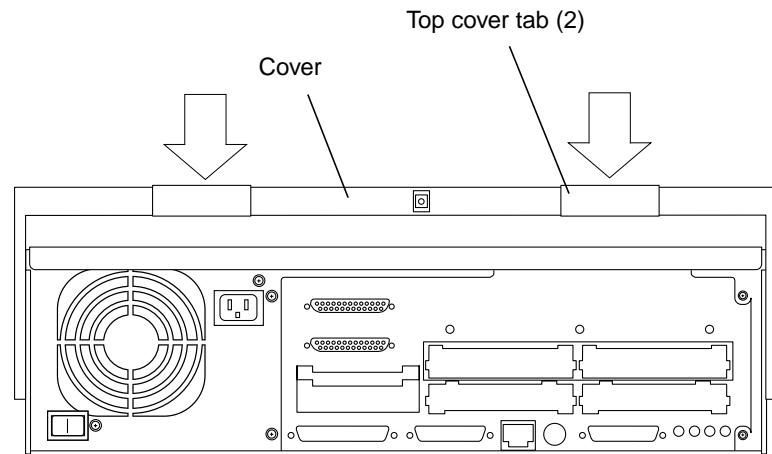

Figure 2-11 Replacing the Cover
3. **Lower the cover onto the system unit so that the rear of the cover is supported by the chassis back panel (Figure 2-11).**